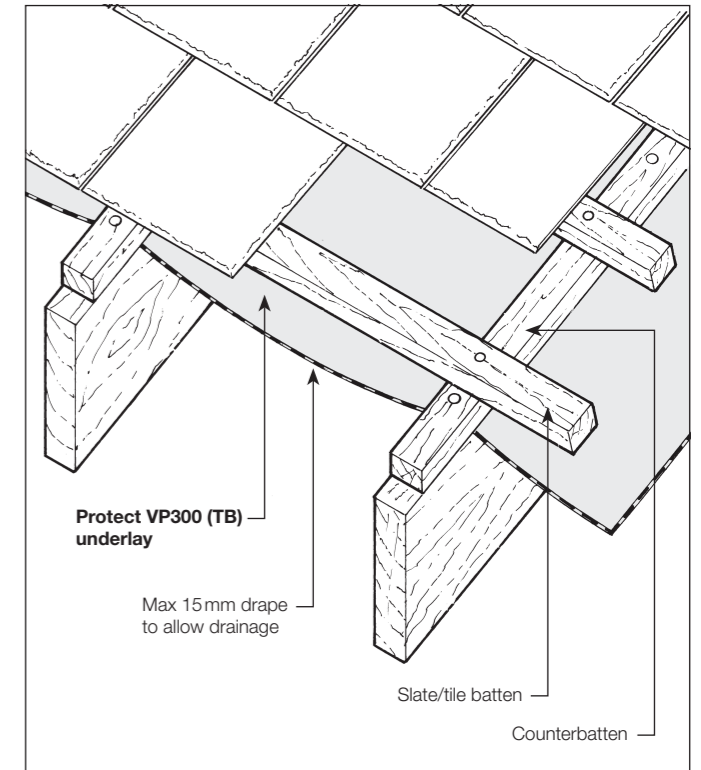

Figure 2.
Where vapour permeable underlays such as Protect VP300 (TB) are used to contribute to condensation control they do so by allowing water vapour to escape to the atmosphere via the roof covering. Most concrete and clay tiles are sufficiently air open but if a tight roof covering is installed, e.g. fibre cement slates and metal tiles etc., it is necessary to ventilate the batten space. In this case, 25 mm counterbattens must be used above the underlay and ventilation provided – 25,000mm²/m at eaves or low level and 5,000mm²/m at ridge or high level (see Fig 2).